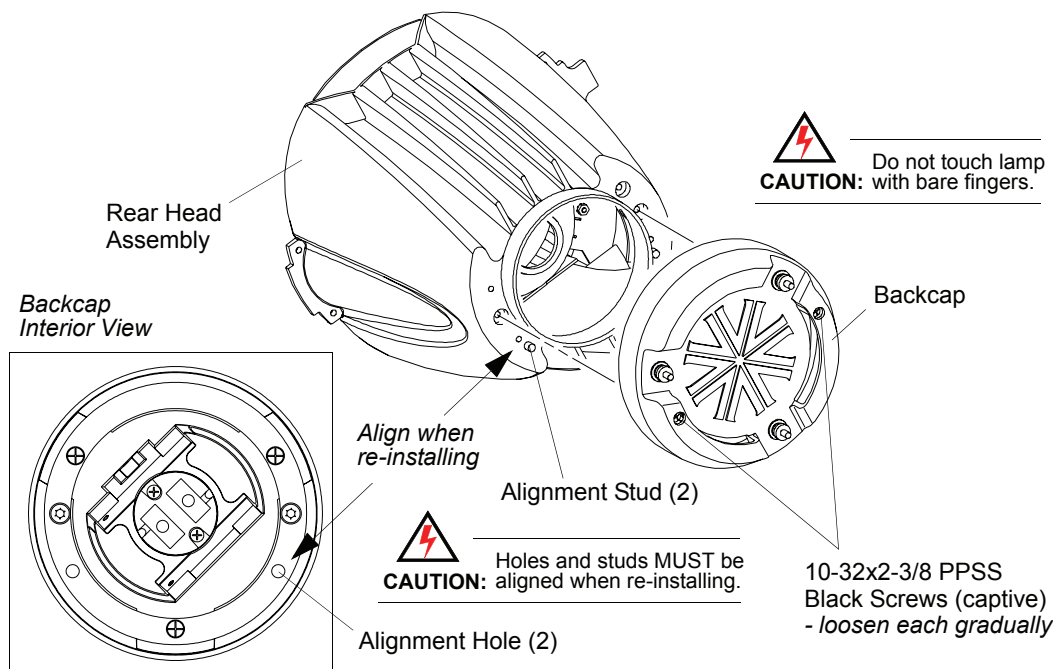

Figure 2-6: Removing Arc Backcap
- Step 2. At backcap, gradually loosen two 10-32x2-3/8" PPSS black screws (Figure 2-6) a few turns at a time until backcap is free. (Screws must be alternately loosened to prevent one side from locking up.)
Step 4. Re-install backcap, ensuring that alignment studs and holes are aligned (Figure 2-6).